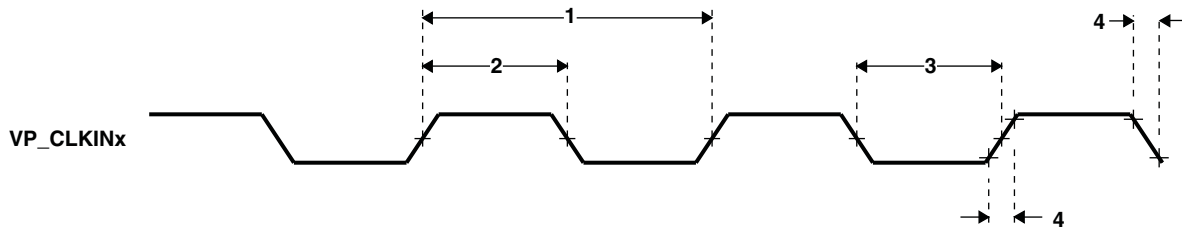

**Figure 6-65. Video Port Capture VP\_CLKINx Timing**
**Table 6-97. Timing Requirements for VPIF VP\_CLKINx Inputs(1)** (see Figure 6-65)